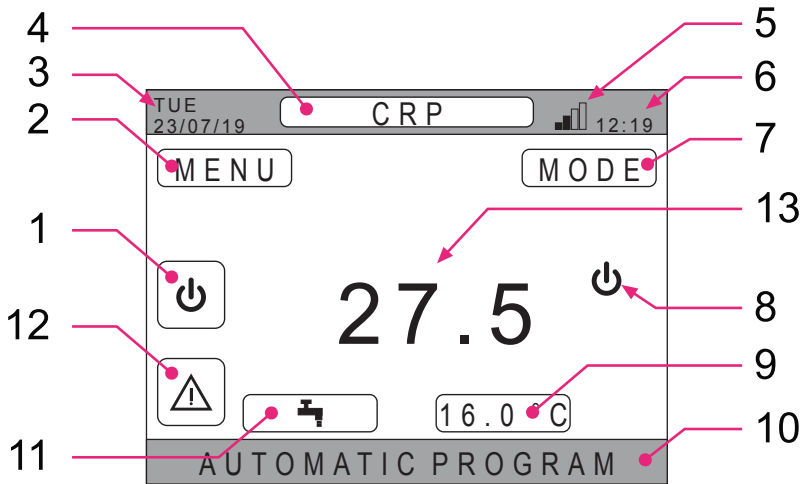

fig. 21 - Main screen
Press the ✓ button in the “System” active area (ref. 1 - fig. 21) to access the menu for changing the system operating mode and activate or deactivate “DHW production” (DHW menu).
Press the ✓ button in the “MENU” active area (ref. 2 - fig. 21) to view some system information and to change some of its settings.
By repeatedly pressing the button ✓ in the active area “Selected zone/Zone change” (ref. 4 - fig. 21) it is possible to go to the zone to monitor or change the settings. The change occurs cyclically in all the configured zones.